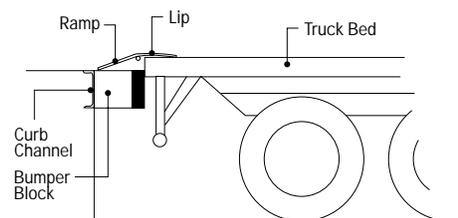

Fig. 29
- An edge-of-dock type, installed on the curb of the loading platform (Fig. 29).